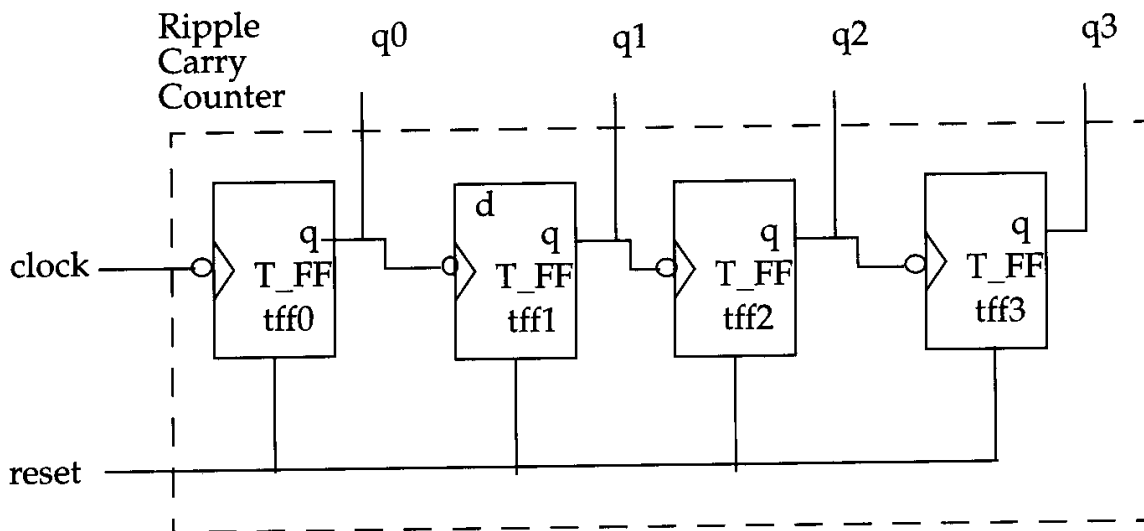

Fig.3.17: 4-bit Ripple Carry Counter
- 4-bit ripple counter shown in fig.3.17 is designed by using four negative edge-triggered T-flipflops.